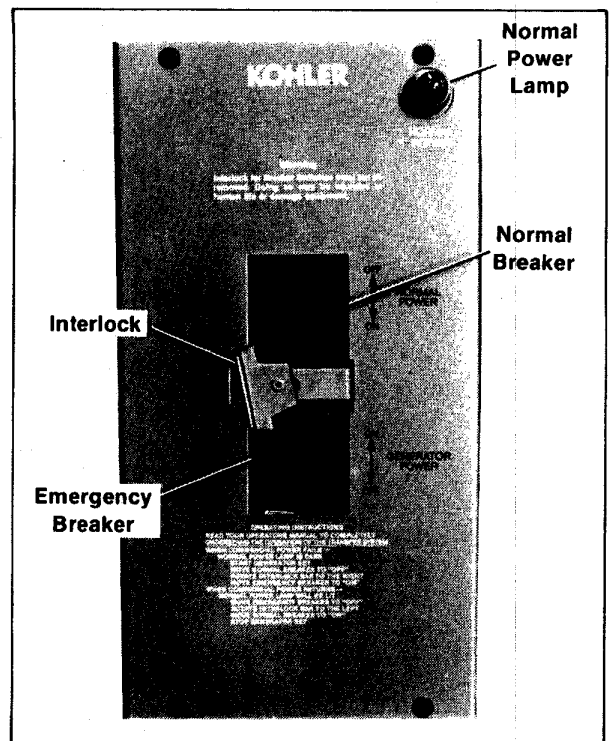

Figure 1-7. 100/60 Amp. Transfer Switch
- 5a. **100 Amp. Transfer Switch:** Push NORMAL circuit breaker to OFF position. Move lower portion of interlock to the left and push EMERGENCY circuit breaker to ON position. The generator is now connected to your house circuits. See Figure 1-7.